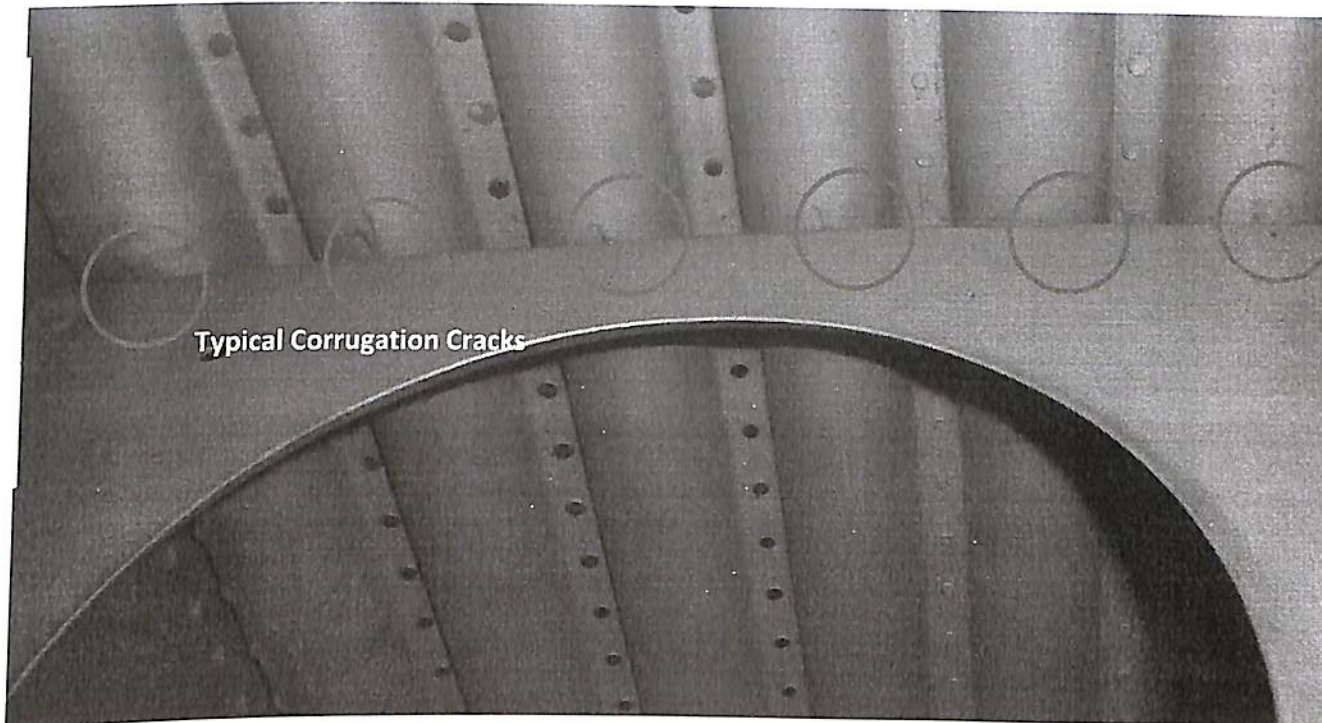

FIGURE 1A – TYPICAL CORRUGATION CRACKS
- (h.) Corrugations at rib attachments (both forward and aft of the main spar). See **Figure 1A** and **1B** for typical corrugation cracks;